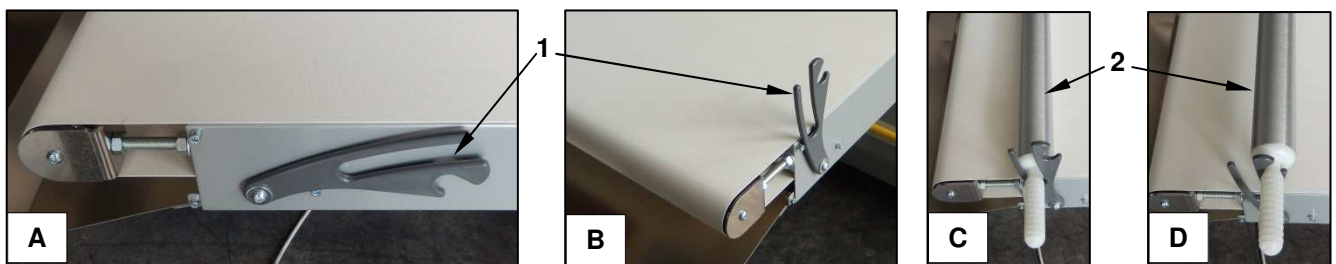

Figure 27 - Rolling pin and relative supports
8. With reference to Figure 27, before the last pass between the rollers, raise the supports ref. 1 (photo B) of the rolling pin ref. 2. Place a rolling pin in the deepest slot (photo C) and wrap a small section of rolled dough around it. The rolling pin will continue to turn because of friction against the belt and wind the entire sheet of dough.
10. Before restarting to roll dough, remove the rolling pins (which are either empty or full) from the machine and lower the supports ref. 1 (photo A).